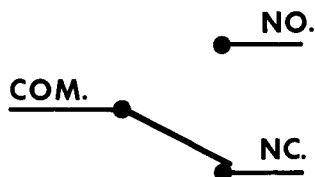

Figure 11 - Switch In Free State, Plunger Up.
- b. With switch plunger free (up position) check for continuity between "common" and "NC" terminals per Figure 11.